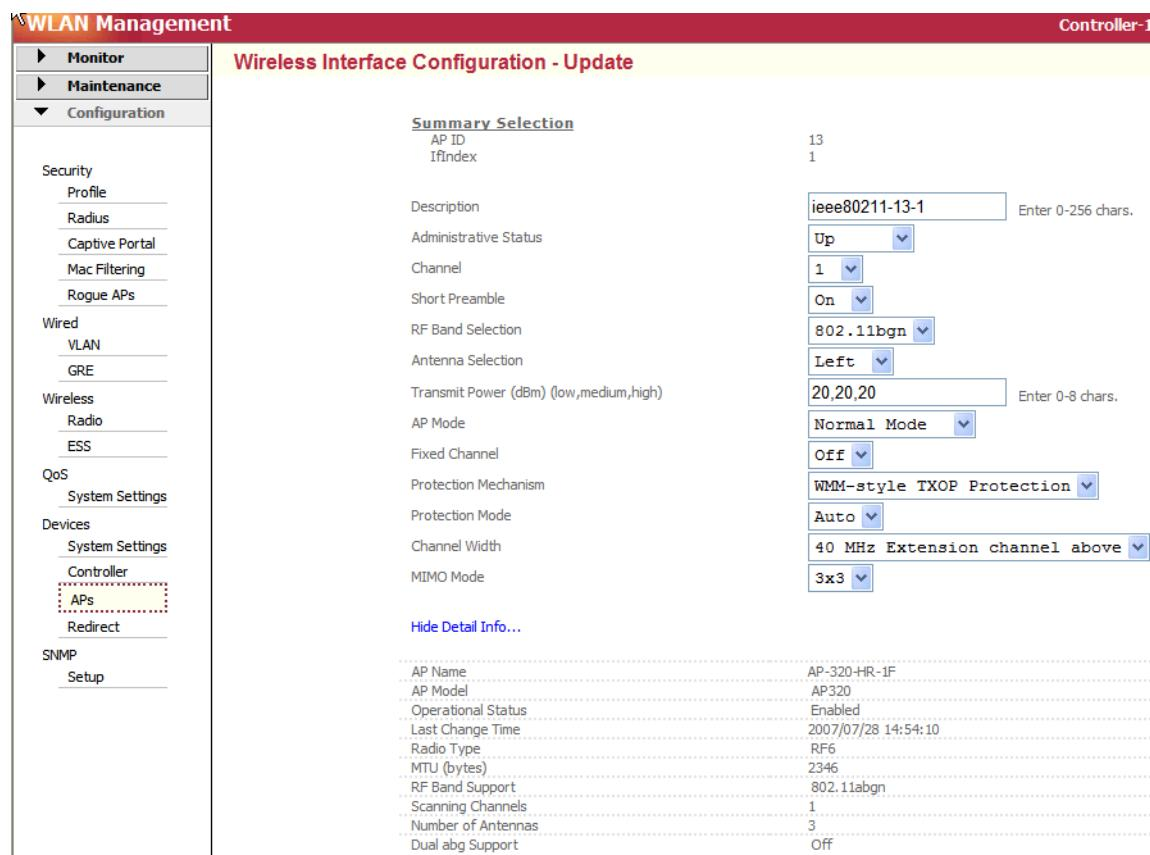

Figure 11: Wireless Interface Tab - Set MIMO Mode and Channel Width
6. Next, configure MIMO mode and Channel Width. Click the Wireless Interface tab. You see the Wireless Interface Configuration window shown in Figure 11.
9. Configure Channel Width by clicking the drop-down list and selecting either 40 MHz Extension channel above or 40 MHz Extension channel below. The 'channel above' and 'channel below' are relative to the value set in the Channel control setting (see Figure 11, the third setting from the top). This configures the channel bonding.